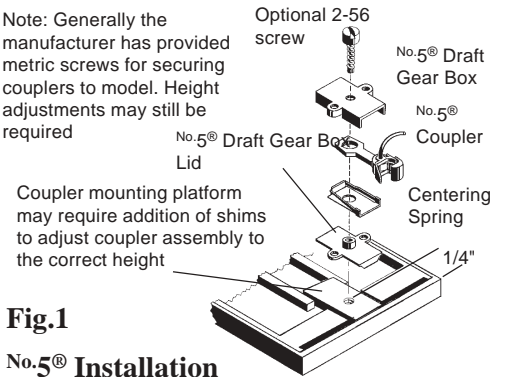

Fig.1
2. Use screws (metric) that come with model to secure No.5® Coupler assembly. Usually there are two screws for each coupler assembly, one for each side mounting lug. If screws are missing or you wish to convert to a single 2-56 screw, drill and tap a 2-56 hole 1/4" from edge on centerline. Use a 2-56 screw of appropriate length to secure No.5® Coupler. See Fig.1.